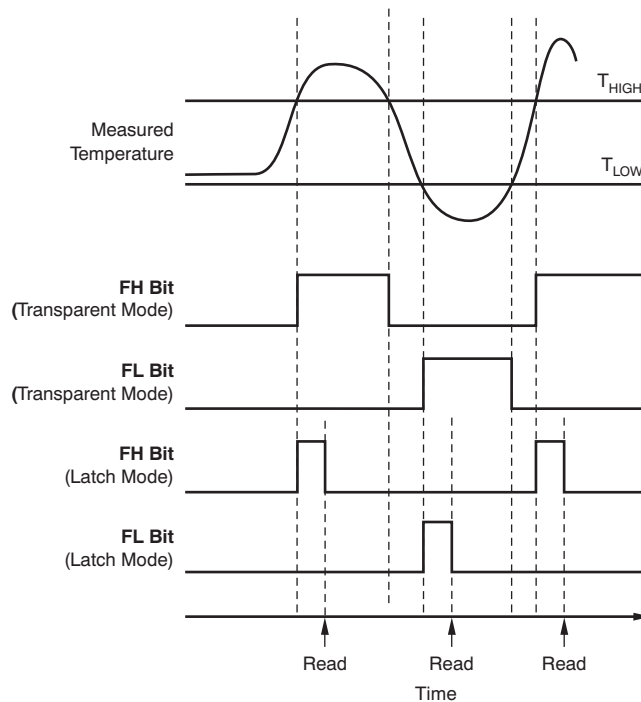

Figure 12. Temperature Flag Functional Diagram
The TMP103 contains a watchdog function that monitors device temperature and compares the result to the values stored in the temperature limit registers (T_{HIGH} and T_{LOW}) to determine if the device temperature is within these set limits. If the temperature of the TMP103 becomes greater than the value in the T_{HIGH} register, then the flag-high bit (FH) in the configuration register is set to 1. If the temperature falls below the value in the T_{LOW} register, then the flag-low bit (FL) is set to 1. If both flag bits remain 0, then the temperature is within the temperature *window* set by the temperature limit registers, as shown in Figure 12.